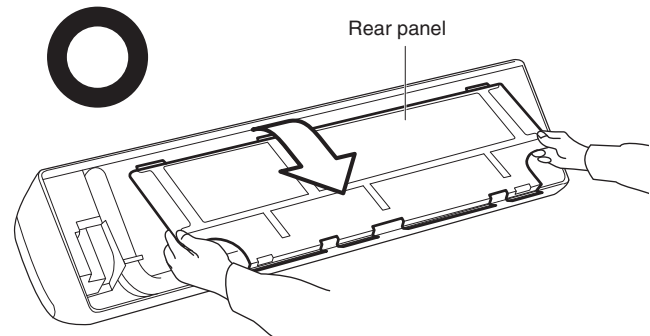

Fig. 3-3
- (3) Remove the rear panel by grasping the sections shown in Fig. 3-3 and pulling it in the direction shown by the arrow.